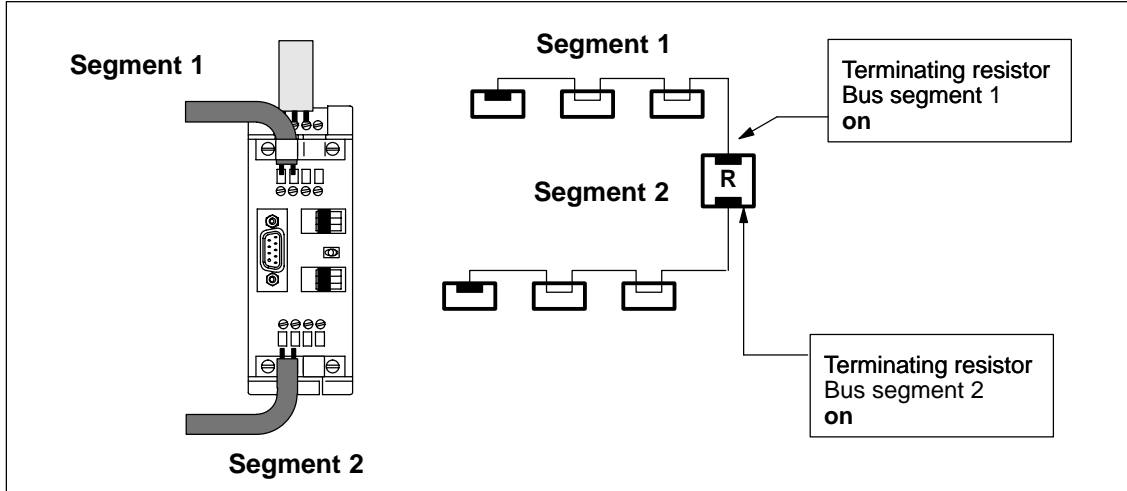

Figure 5-3 Connecting Two Bus Segments to the RS-485 Repeater
)1 If the terminating resistor is activated, the right-hand bus attachment is disconnected (see Figure 5-3) !
- Segment 1 and Segment 2 terminated on the RS-485 repeater (see Figure 5-3)
Figure 5-3 shows how to connect the RS-485 repeater to the ends between two segments: